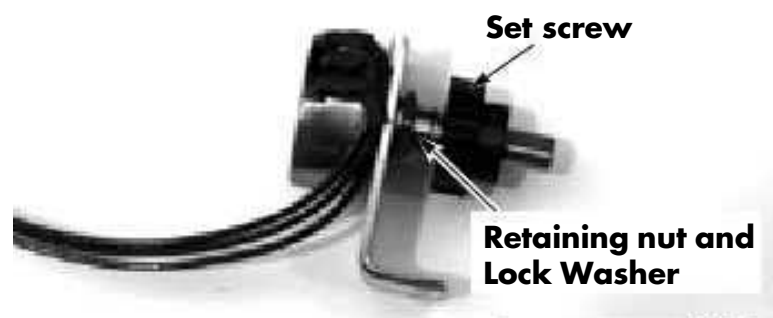

Figure 7-17. Travel Pot/Bracket Disassembly
3. Loosen the set screw on the gear two full turns and slide the gear off the shaft. See Figure 7-17.
4. Remove retaining nut and lock washer from pot and separate from the bracket. See Figure 7-17.
10. Assemble pot and bracket and install retaining nut and lock washer. When installing the travel pot into the bracket, leave the mounting nut finger tight. See Figure 7-17.